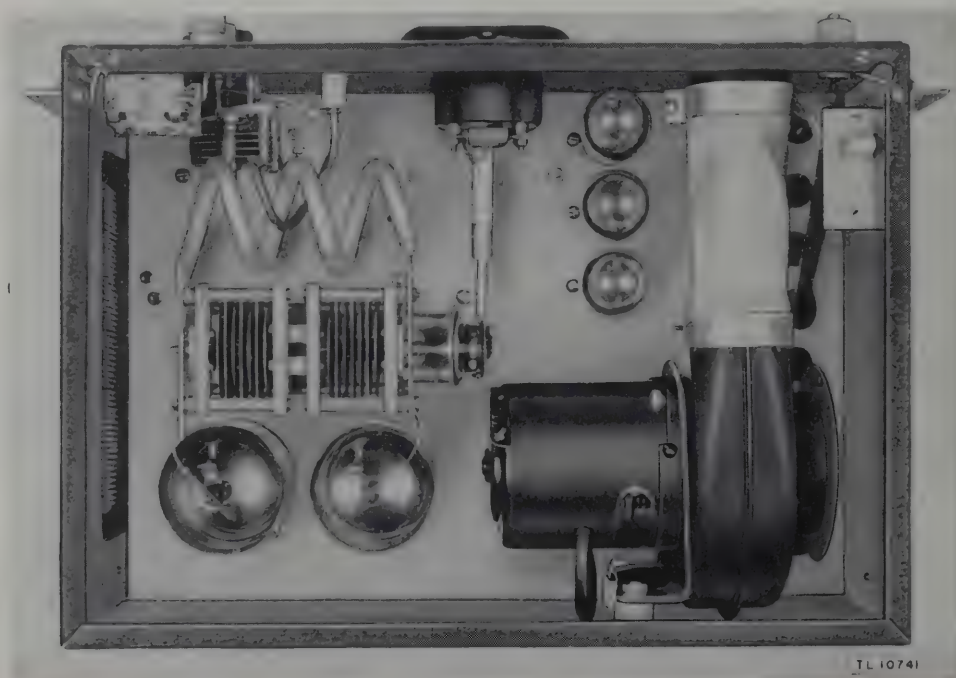

Figure 37. Amplifier AM-8/TRA-1, top view with cover removed.
a. Amplifier AM-8/TRA-1 (fig. 37) is the original 200-watt output r-f amplifier. It uses two type 4E27 tubes for a 7-db signal gain above the radio transmitter output. Three type 0D3 tubes are used for screen voltage regulation.